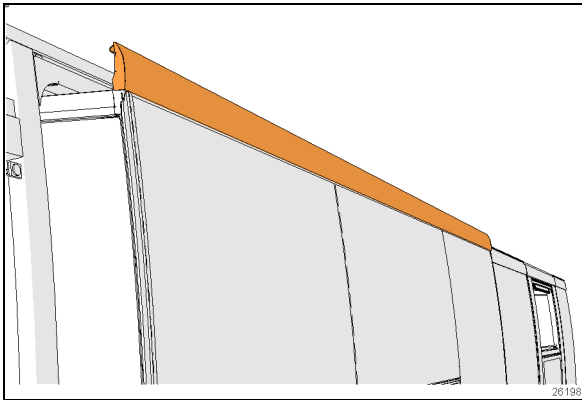
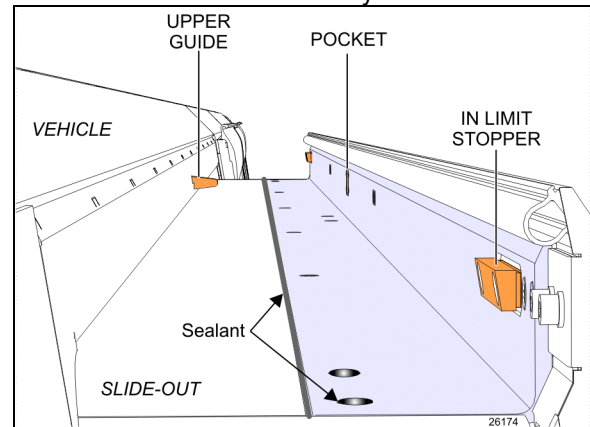

FIGURE 19 TOP EXTRUSION
FIGURE 30: EXTERIOR EXTRUSION
2. Turn the ignition to the off position. Using the manual override procedure (Paragraph 5), extend the slide-out a few inches so the exterior extrusion screws located on the top of the slide-out are accessible from outside (Figure 30).
8. Using a knife, cut the sealant between the Top extrusion and the roof. (Figure 19, Figure 30)
9. Remove the top exterior extrusion screws and the two end caps (Figure 19)
14. Once completed, use the manual override procedure to extend the slide-out and reinstall the exterior extrusion. Apply appropriate sealant on the exterior extrusion screws and between the extrusion, the roof and the edges to prevent water infiltration (Figure 30).